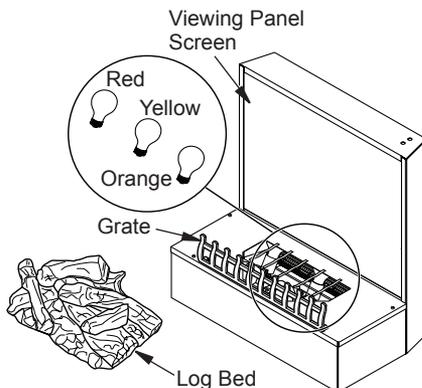

Figure 9 - Bulb Placement
2. Turn on power to light circuit and check that all bulbs are operating. Bulb placement front left to right are red, yellow and orange (see Figure 9).